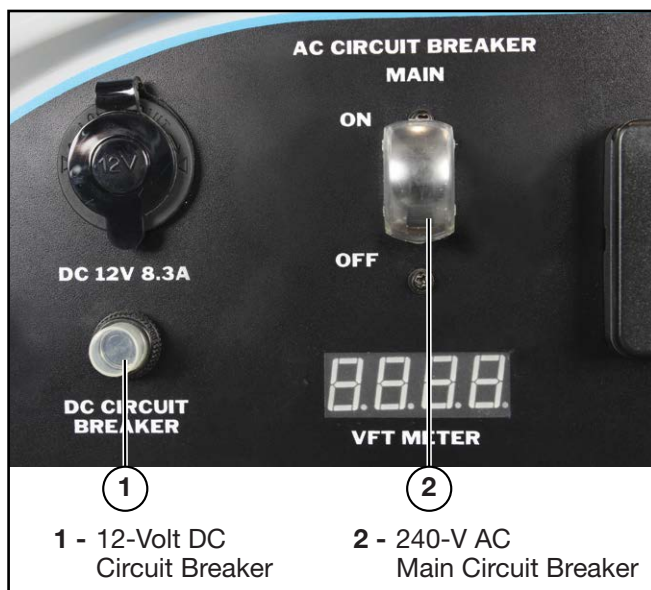

Figure 21 – Circuit Breakers
- Make sure the AC circuit breaker is properly set to the **OFF** position and the DC breaker is pushed in (see Figure 21).
2. Make sure the AC circuit breaker is properly set to the **OFF** position and the DC breaker is pushed in (see *Figure 21*).
3. Connect electrical cords or devices into the 240-Volt AC or 12-Volt DC outlets, as required. Switch the 240-Volt AC Main Circuit Breaker to the **ON** position and ensure that the DC breaker is pushed in (see *Figure 21*).